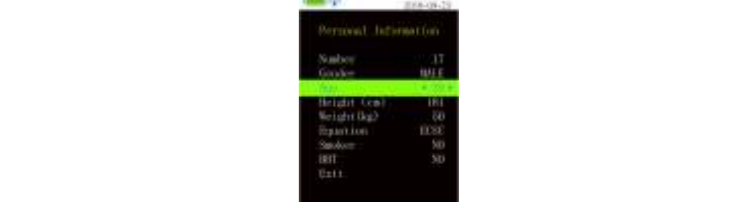

Figure 8 Age adjustment interface
- (1) Case number**
- (2) Gender setting**
- (3) Settings of age, height, weight**
- Select "Age" to adjust the age as shown in Figure 8. Press UP or DOWN key to change the value, the value will increase or decrease 1 after pressing UP or DOWN key once, then press CONFIRM key to return to Personal information interface.